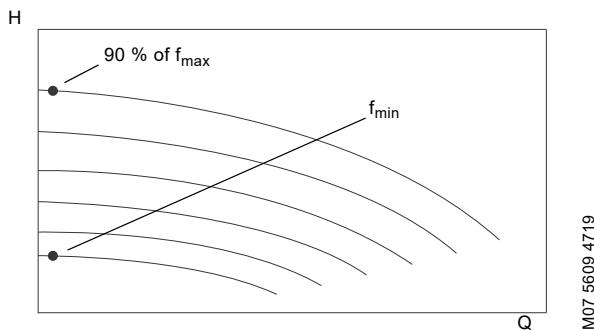

Fig. 115 QH curve for variable speed pump for choosing low flow operating points
3. Click on the pump curve to set the duty point as close to f_{min} and enter Q to 0.1 as Operating point. See fig. 115
5. Click on the pump curve to set the duty point as close to 90 % speed and enter Q to 0.1 as Operating point. See fig. 115.